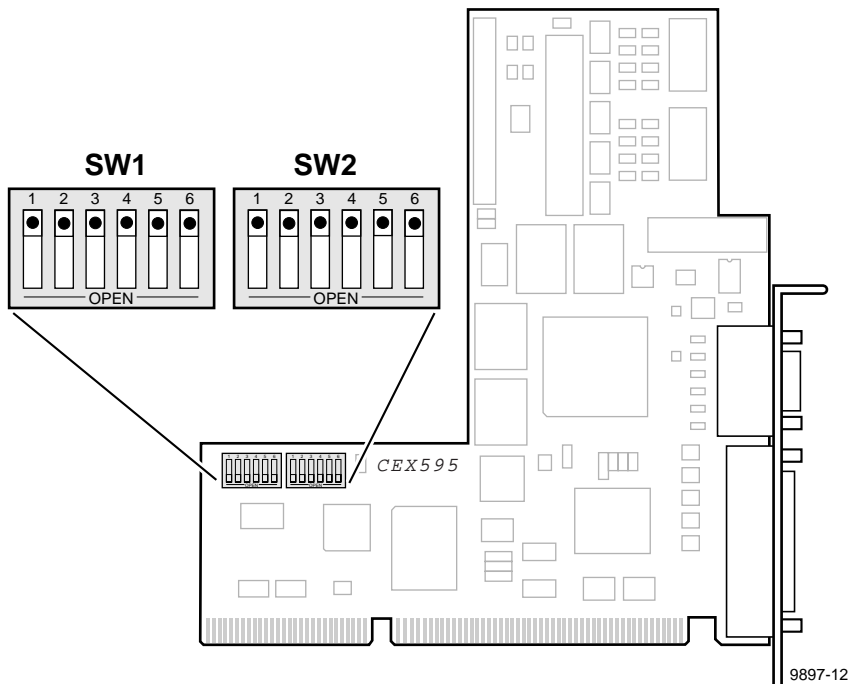
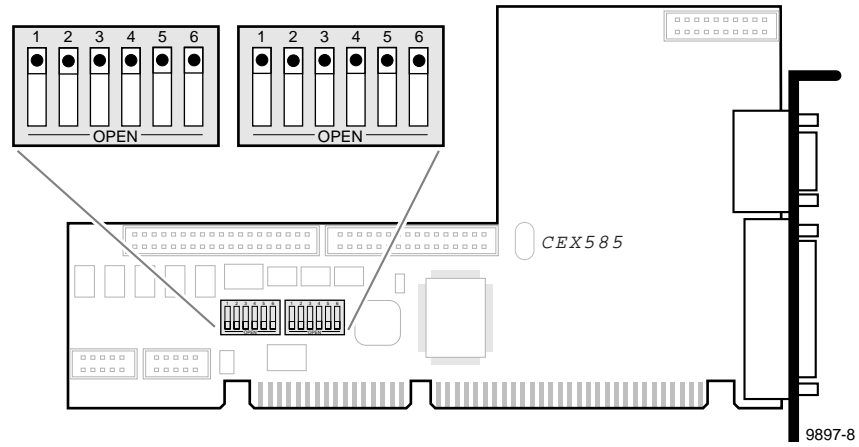

Figure 8. CEX595 VGA-I/O board switch settings when used with the 486 System CPU board
Figure 9. CEX585 VGA-I/O board switch settings when used with the 486 System CPU board
2. Verify that your VGA-I/O board switch settings match Figure 8 for the CEX595 or Figure 9 for the CEX585, then proceed to “Installing the Parallel Port L-bracket” on page 39.
- e. Verify your VGA-I/O board switch settings match Figure 8 on page 35 for the CEX595 board or Figure 9 on page 36 for the CEX585 board.